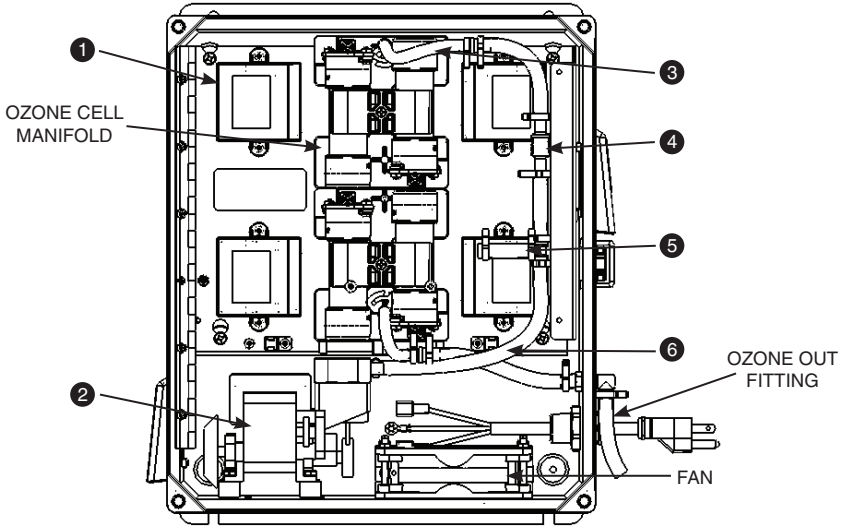

Figure 2: ZO-400 Internal View
- a. Open Cover and remove two (2) #6 screws on face plate.
- c. To order replacement parts, refer to **Figure 2** for part numbers and descriptions.